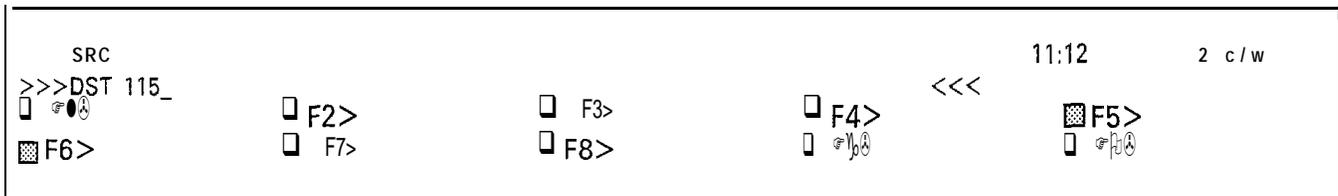
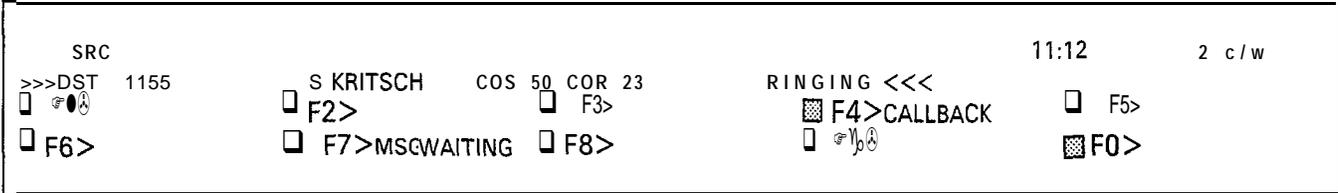

Figure 3-7 Dialing a Destination
Figure 3-8 Calling a Destination
3.14 In order to call a party the Attendant must dial the number from the dial keypad. Figure 3-7 gives an example of the appearance of the display while the Attendant is dialing a destination. Line 1 is reserved for the source. Line 2 is reserved for the destination and will contain information pertaining to the destination when the complete number has been dialed; refer to Figure 3-8. The Attendant may cancel the call at any time by pressing the CANCEL fixed key. The Attendant Console will then revert to the previous state. The Attendant may use the back arrow key to correct or change an entry.